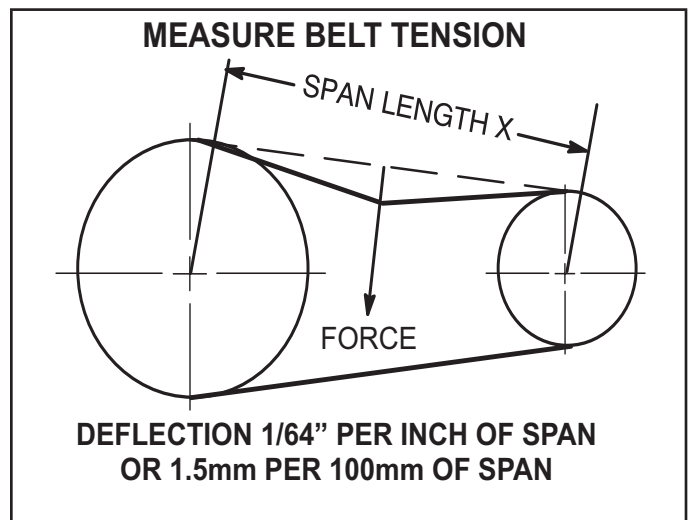

FIGURE 21
- 1 - Measure span length X. See FIGURE 21
- 2 - Apply perpendicular force to center of span (X) with enough pressure to deflect belt 1/64" for every inch of span length or 1.5mm per 100mm of span length.